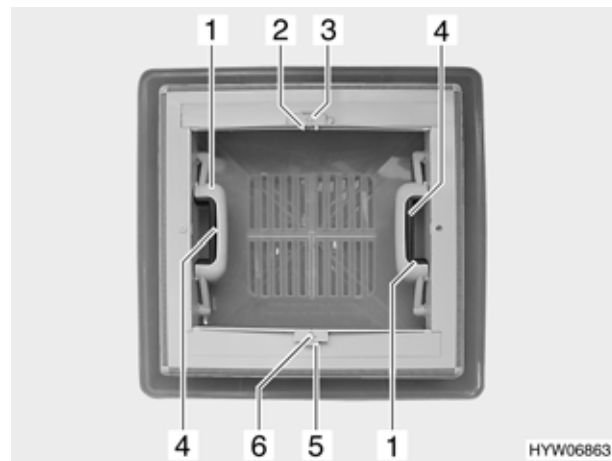

Fig. 56 Skylight with snap latch
- Push the spring-loaded latch (Fig. 56,4) towards the inside of the skylight. At the same time press the handle (Fig. 56,1) upwards.
- Push latch (Fig. 56,5) towards external side of skylight.
- Pull blind at the handle (Fig. 56,6) to the opposite handle of the insect screen (Fig. 56,2) and allow to engage.
- Clench the handle (Fig. 56,2). The latch is released.
- Use handle (Fig. 56,6) to return blind slowly to its initial position.
- Push latch (Fig. 56,3) towards external side of skylight.
- Pull insect screen at the handle (Fig. 56,2) to the opposite handle of the blind (Fig. 56,6) and allow to engage.
- Use handle (Fig. 56,2) to slowly return the insect screen.